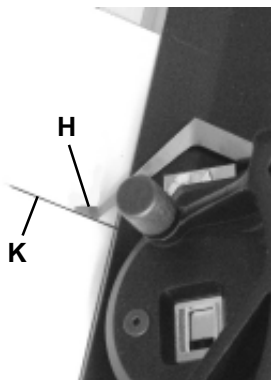

Figure 6
4. Press down on the **Clamp Handle** and pivot the bevel cutting blade into the mat for the start of a cut. Figure 6 shows the starting position by lining up the **Sight Gauge (H)** with the upper pencil line (K).